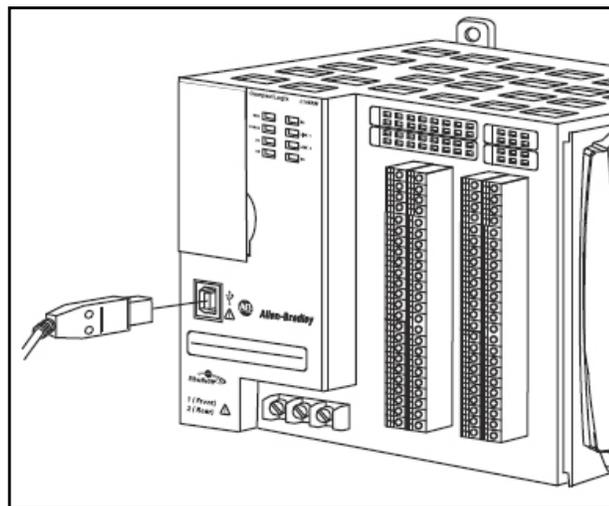

Figure 2-5 PLC USB connection
- Hot Water Temperature Transmitter (Fig. 2-5); one per tank. This transmitter provides a sensor input to the ADAC controller. The 4-20mA signal is used to display water temperature in the tank.